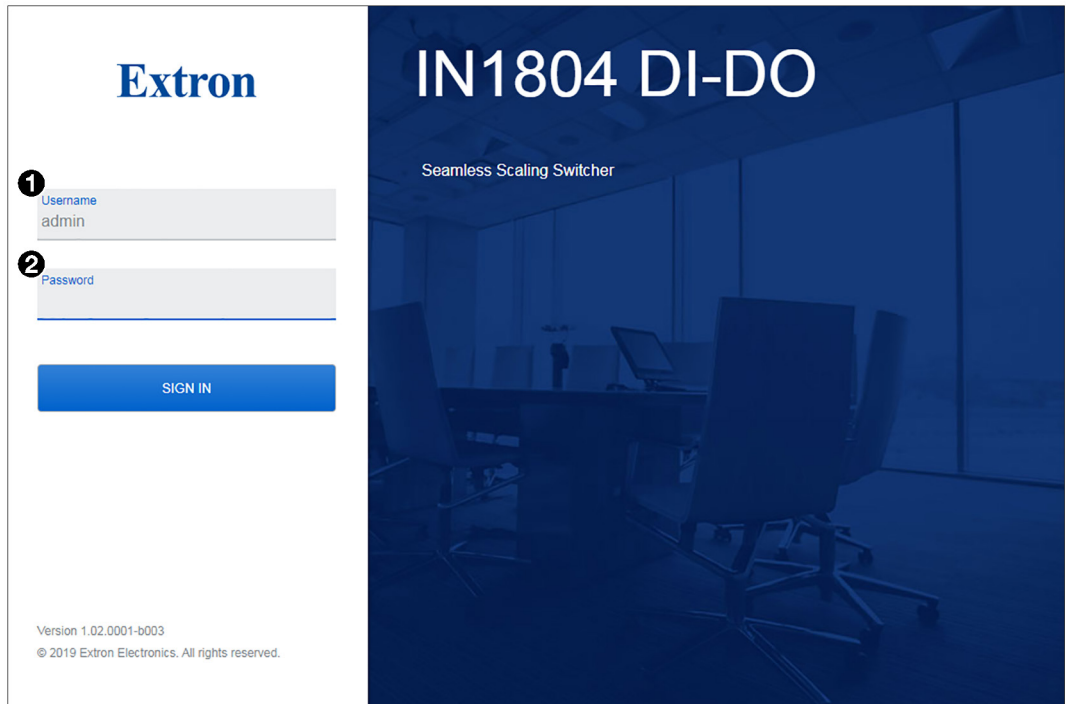

Figure 48. IN1804 DI/DO Sign-in Page
4. Press <Enter> on the computer keyboard. The product sign-in page opens (see figure 48 on the next page).
5. Enter **admin** or **user** in the **Username** field (see figure 48, ❶).
6. If required, enter the password in the **Password** field (❷):